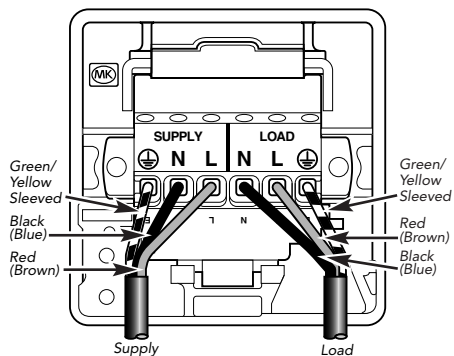

Figure 5
4. Connect the cables to the correct SUPPLY or LOAD terminals, as shown in figure 5.